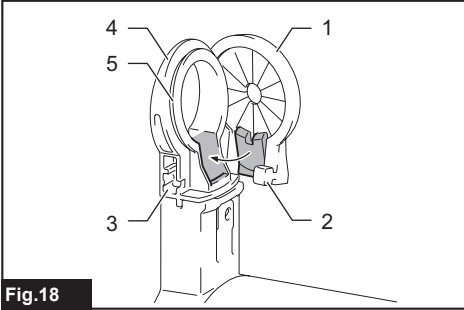

Fig.18
► Fig.18: 1. Sealing cap 2. Cube hook 3. Receptacle 4. Nozzle head 5. Rims